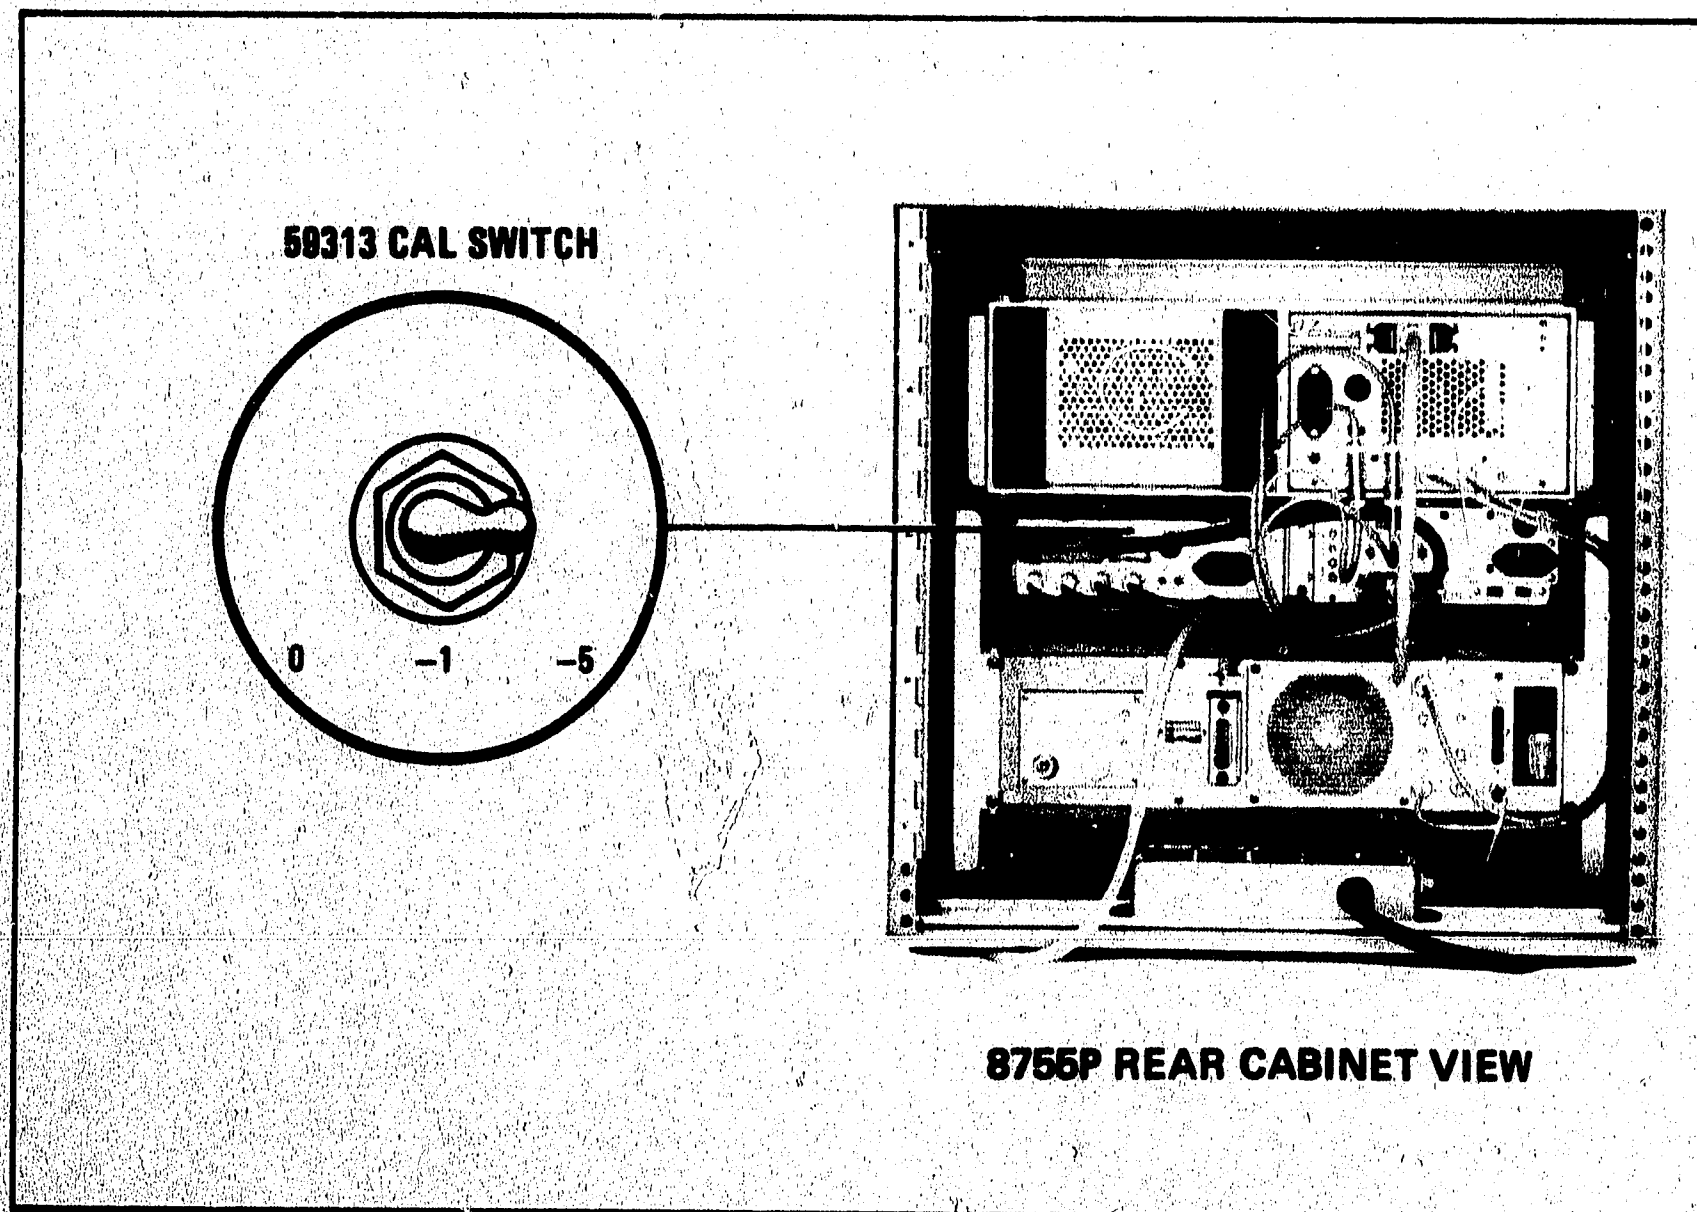

Figure 5-6. 59313A CAL Switch Location
5. Set the 59313A rear panel CAL switch to the 0 position. Refer to Figure 5-6 for the 59313A CAL switch location. Adjust the front panel ZERO adjustment for each channel until all HP 85 channel displays read 0.